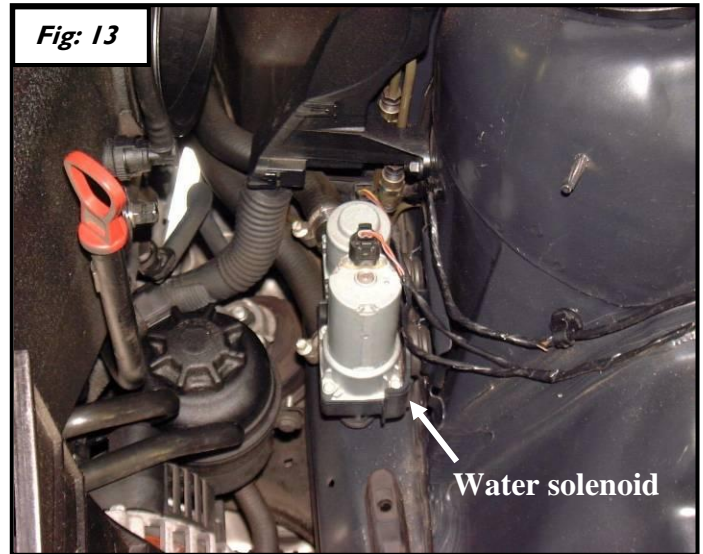

Fig: 13
20. The water solenoid is located under where the rubber air intake hose went in to the motor down on the frame rail. You can see it now that you have removed the air box. See Figure 13.